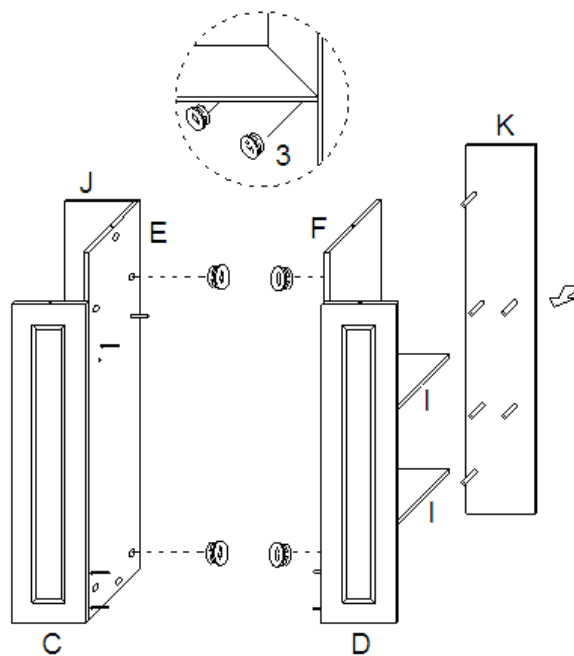

**Fig. 3**
Step 3: Use 8 Cam Lock Nuts (3) to attach Left & Right Front Panels (C,D) to Shelves (I). See Fig.3.